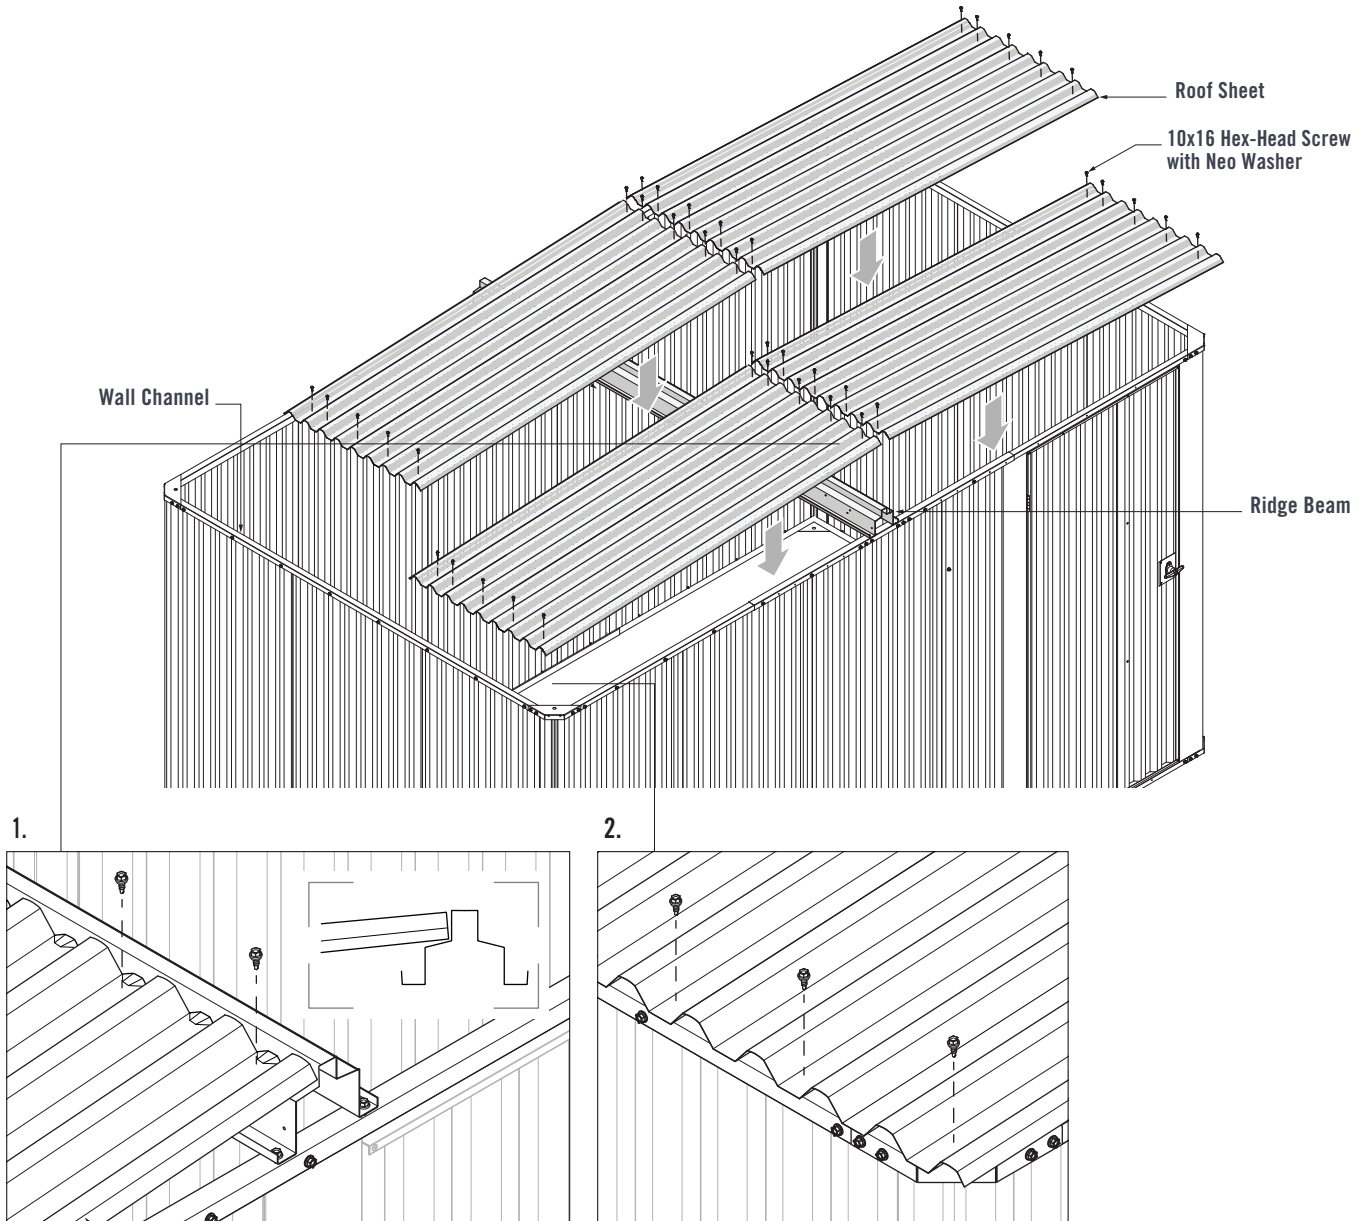

FIGURE 8.4
Refer to Sheet layout in Figure 8.2. Lay a Roof Sheet onto the Ridge Beam and Wall Channel, ensuring the overlap end of the Roof Sheet is facing the front of the shed (Figure 8.4).
1. Ensure the end of the Roof Sheet is in-line with the end of the Ridge Beam. Fasten five 10x16 Hex-Head Screws with Neo Washers through the pans of the Roof Sheet and into the Ridge Beam (Figure 8.4).
2. Fasten five 10x16 Hex-Head Screws with Neo Washers through the pans of the Roof Sheet and into the Wall Channel (Figure 8.4).